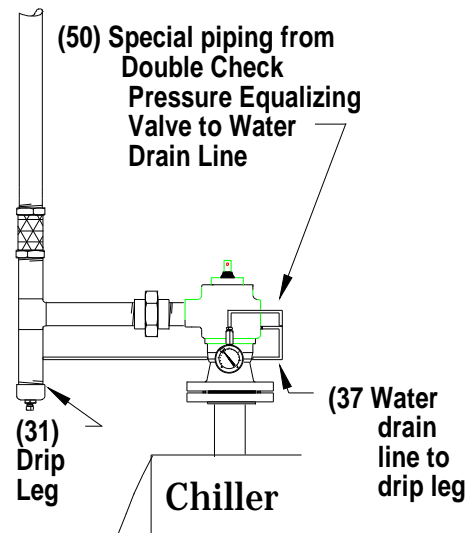

Figure 8 - Special Piping for R-123 Systems
When installing a **RuptureSeal™** valve on a chiller utilizing R-123 refrigerant, it is suggested that the output of the Double Check Pressure Equalizing Valve (22) be teed into the water drain line (37) (see Figure 8). This will prevent seepage of R-123 refrigerant into the occupied space in the event of a failure of the rupture disk.